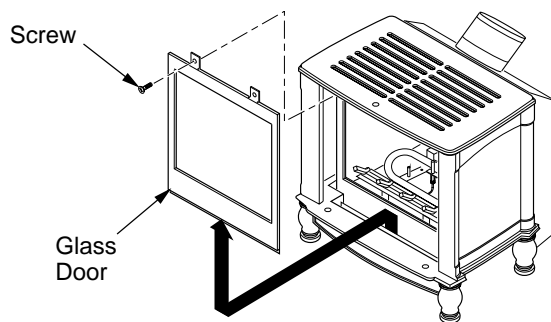

Figure 49 - Removing Glass Door from Burner System Insert
3. Grasp door by both sides and ease it upward off of the lower bracket (see Figure 49, page 22).